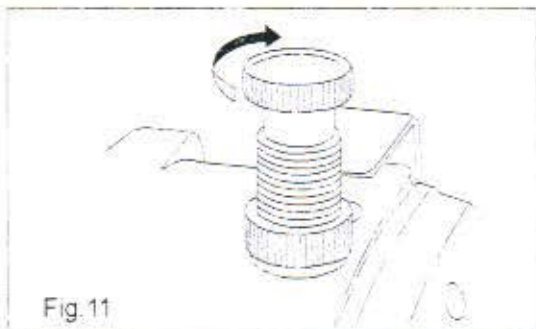

Fig. 11
10. Presser foot (Fig.11 and 12)
Adjustment of pressure on presser foot (Fig.11)